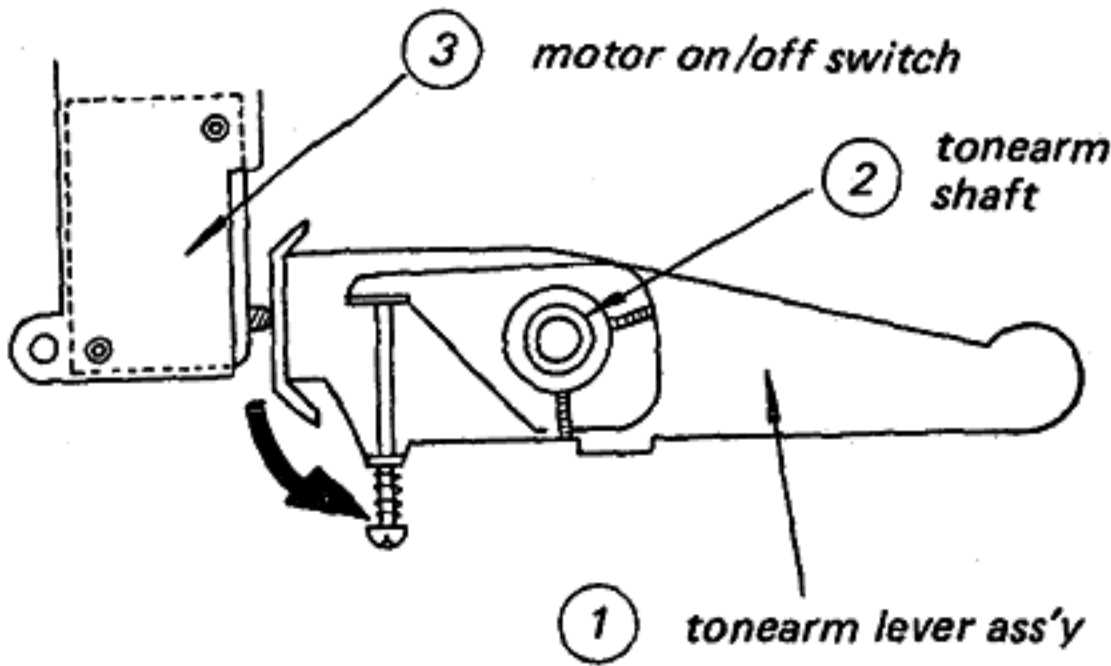

Fig. 1-1. Tonearm lever ass'y movement
The turntable starts to rotate when the tonearm is lifted from its rest and moved toward the first groove of the record. The tonearm lever ass'y (1) which is attached to the end of the tonearm shaft (2) rotates and releases the motor on/off switch (3) as shown in Fig. 1-1, so that the motor is switched on.